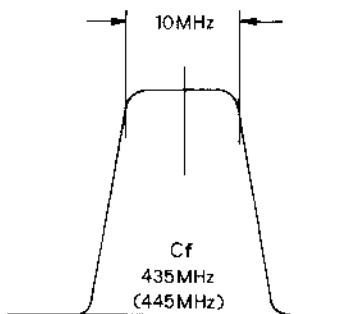

Figure 4
- e) Close the PTT switch and adjust TC₃₀₀₄, TC₃₀₀₅, TC₃₀₀₆ and CV₃₀₀₃, until the scope pattern illustrated in Figure 4 is obtained.